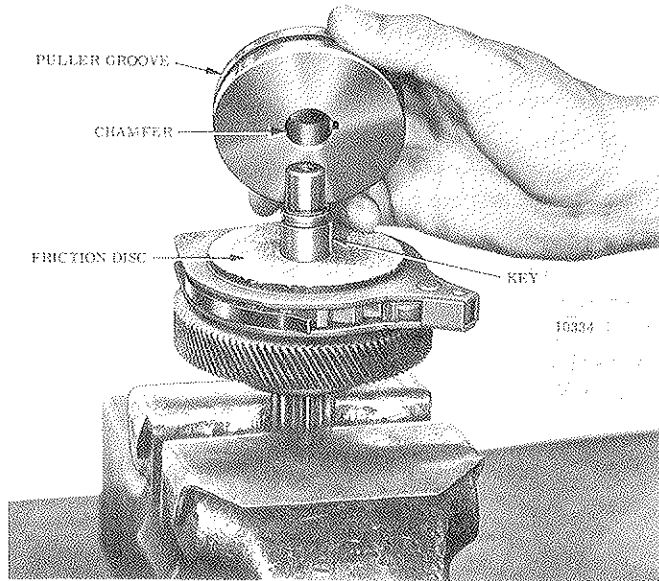
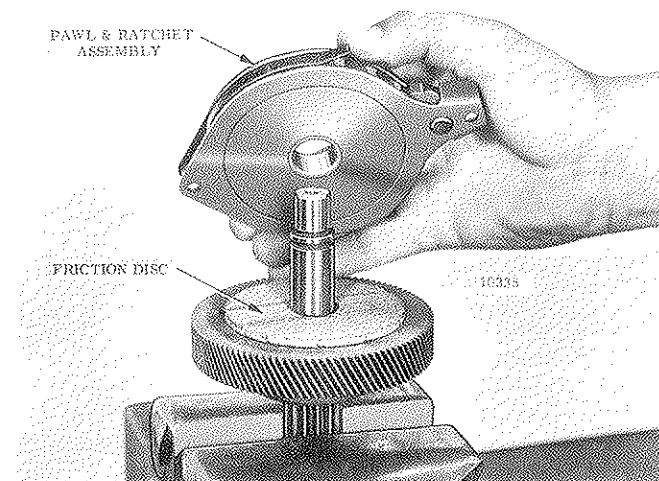

Figure 7-30. View Showing Load Brake Flange Removed
Figure 7-31. Removing Pawl and Ratchet Assembly From Load Brake Shaft
(2) Using a puller tool, remove brake flange from shaft. A groove is provided around outer diameter for this purpose. See figure 7-30. Remove key from shaft and lift off 2 friction discs, and the pawl and ratchet assembly (fig. 7-31).
(4) When installing pawl and ratchet assembly on load brake shaft, be certain that teeth on ratchet face are in the same direction as shown in fig. 7-31. The ratchet assembly should rotate freely when turned counter-clockwise and the pawl should engage ratchet teeth when unit is turned clockwise.
(5) When installing brake flange position it with chamfer facing friction disc, fig. 7-30.